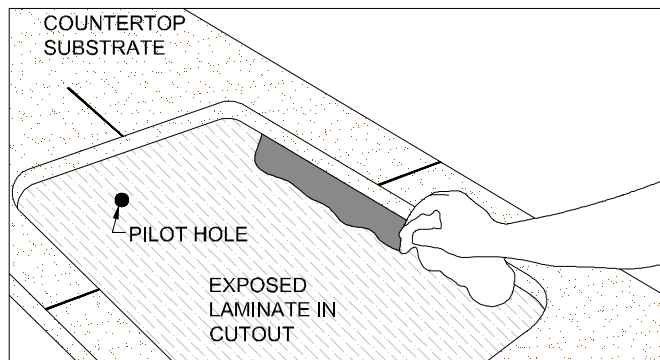

Figure 21A
- Clean the sink flange and exposed laminate with denatured alcohol and a clean white cloth. (FIG. 21A)